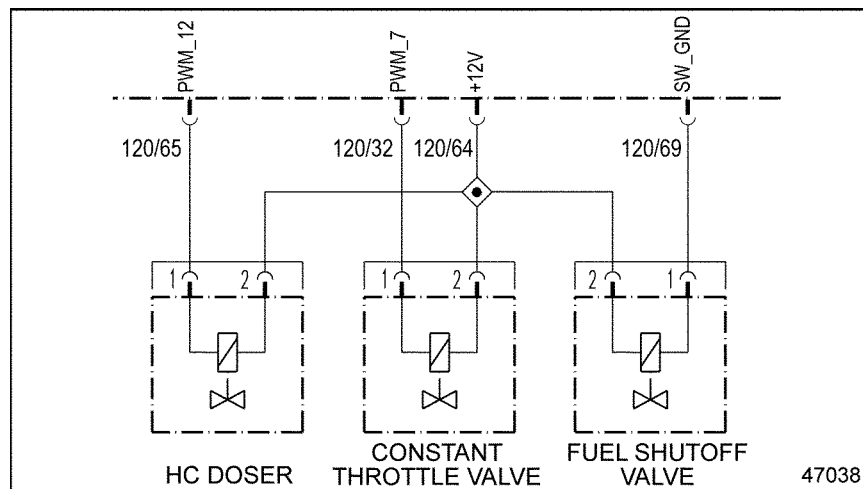

Figure 30-1 Constant Throttle Valve
- [a] If the voltage is greater than 11.5 volts, repair the short to power between pin 1 of the Constant Throttle Valve connector and pin 32 of the 120-pin MCM connector. See Figure 30-1. Refer to section 30.1.1.1.